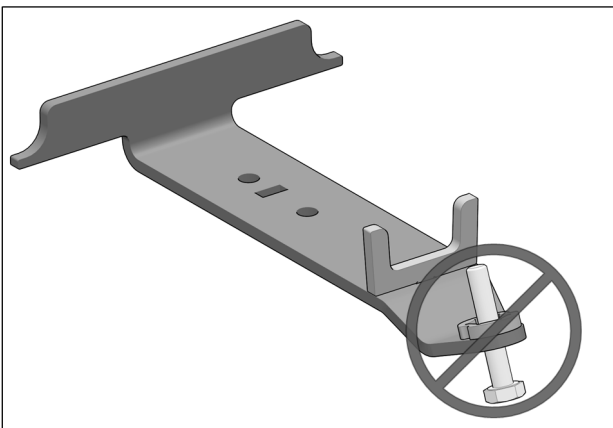

Fig. 14
**CAUTION: Be sure that bolt is inserted in the right direction. See Fig. 14**